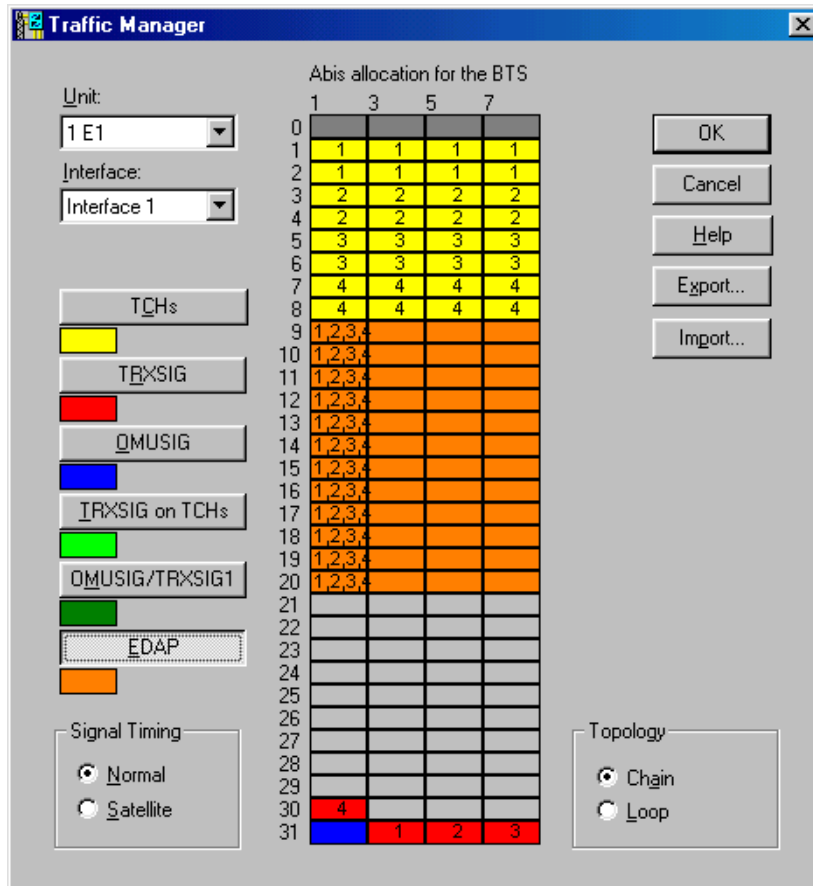

Figure 22. Example of the traffic allocation with EDAP for EDGE transmission
- Click OK to return to the main Traffic Manager window. Figure 22 shows the resulting traffic allocation for this example.